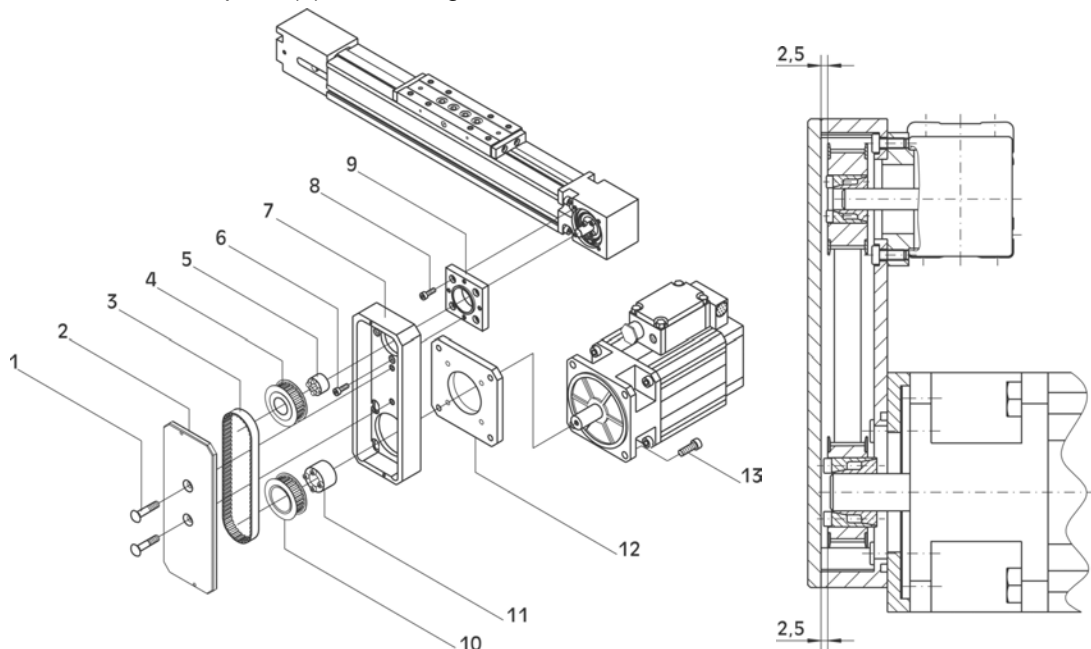

Fig. 8: Belt drive RT 40
1. **Fig. 8:** Fasten housing (7) on bearing housing of WH 40, using an adapter plate (9).
2. Put synchronous sprocket (4) with DKWN-tension set, inside diameter 8 mm (5), on drive shaft of WM 40.
3. Attach drive motor with adapter flange (12) on housing. Do not tighten the screws yet.
4. Synchronous sprocket (10) with DKWN-tension set, inside diameter 14 mm (11), on motor shaft.
5. Wrap toothed belt (3) upon both synchronous sprockets while lining them up. Afterwards fix synchronous sprockets with DKWN-tension sets upon drive shaft and motor shaft (for fastening torques see table on page 28). Distance between top edge of housing and synchronous sprocket 2,5 mm (see figure 8).
1. **Fig. 8:** Tighten toothed belt by shifting the motor with adapter flange (12).
2. Screw cover plate (2) on housing.